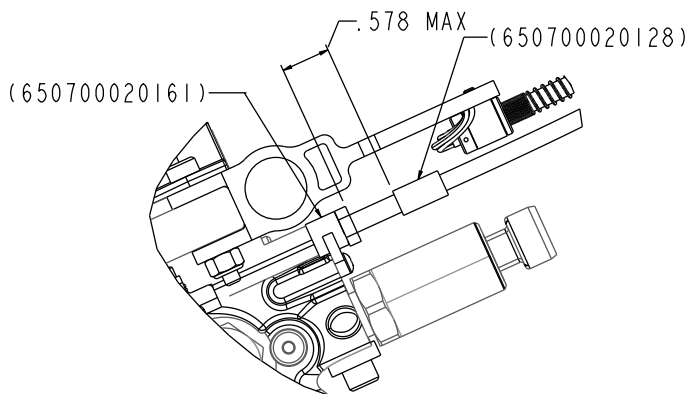

Figure 20 – Maximum distance
9. Make sure that the maximum distance between the cable jam nut and the manual release cable stem is 0.578" (Figure 20).